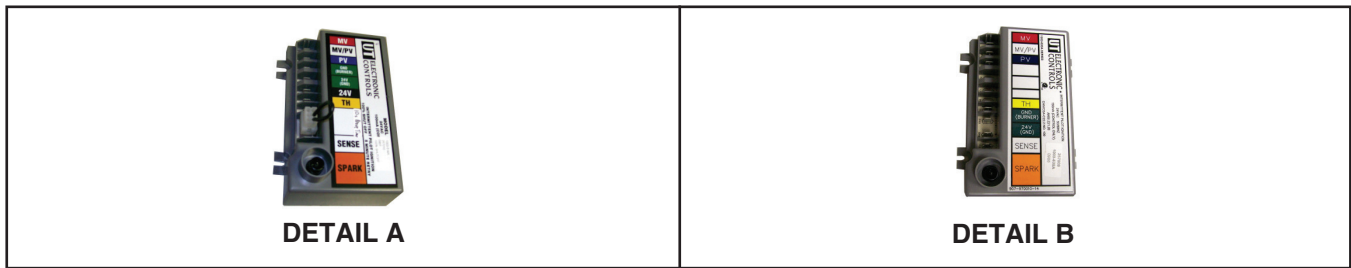

Figure 32. Ignition Controllers
- e. Ignition controller with lockout for option AH3 gas control (UTEC #1003-514, PN 257010) is shown in **Figure 32, DETAIL A**.
- f. Recycling ignition controller for option AH2 gas control (UTEC #1003-638A, PN 257009) is shown in **Figure 32, DETAIL B**.